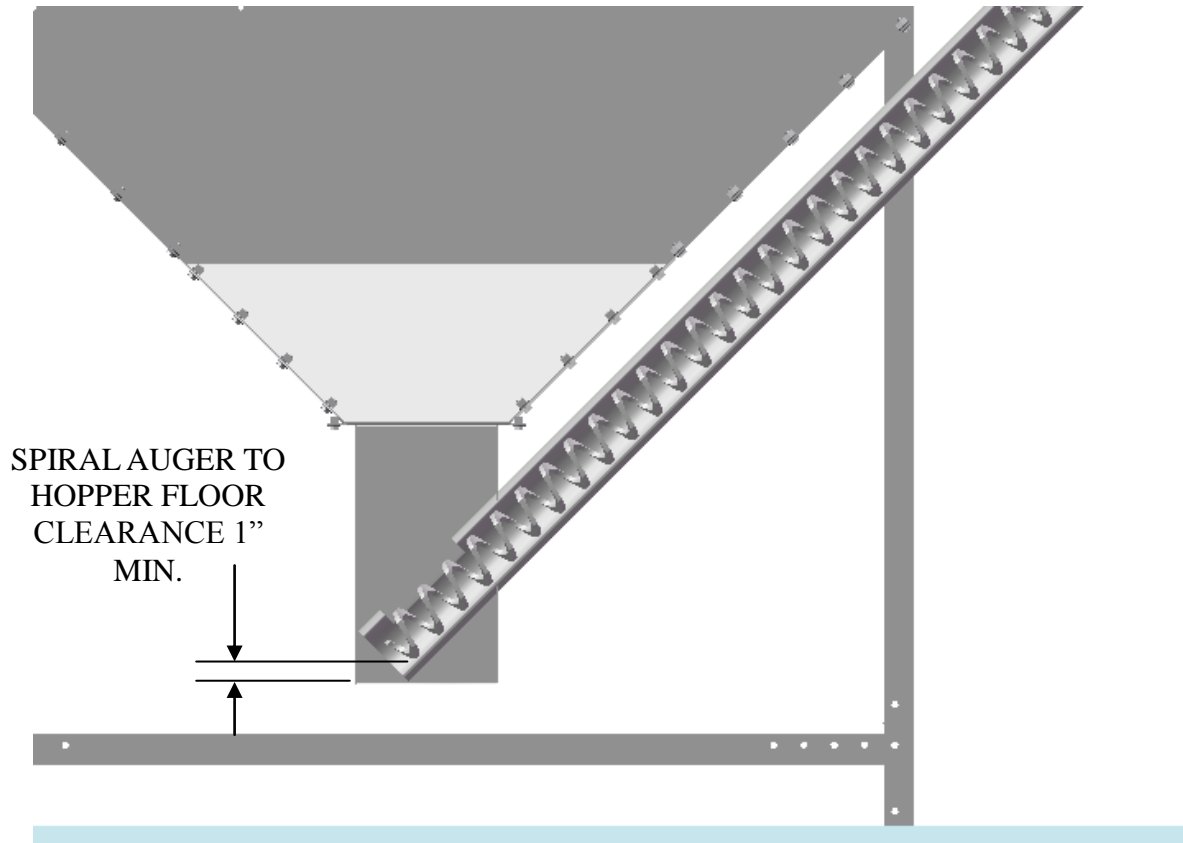

Figure 2.4: Conveyor and Auger assembly details showing the auger spiral
5. Install the conveyor into the pellet hopper, ensure there is clearance between the auger spiral and the bottom of the hopper of at least 1-inch. If the conveyor auger makes contact with the bottom of the hopper, damage can occur. Refer to Figure 2.4 below.